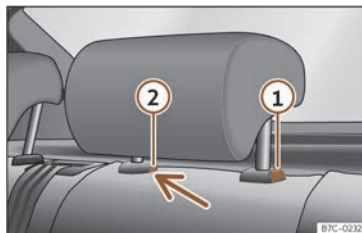

Fig. 94 Rear head restraint: removal.
- Press button >>> Fig. 94 ①, while simultaneously pressing on the safety hole ② with a flat screwdriver a maximum of 5 mm wide, and remove the headrest.